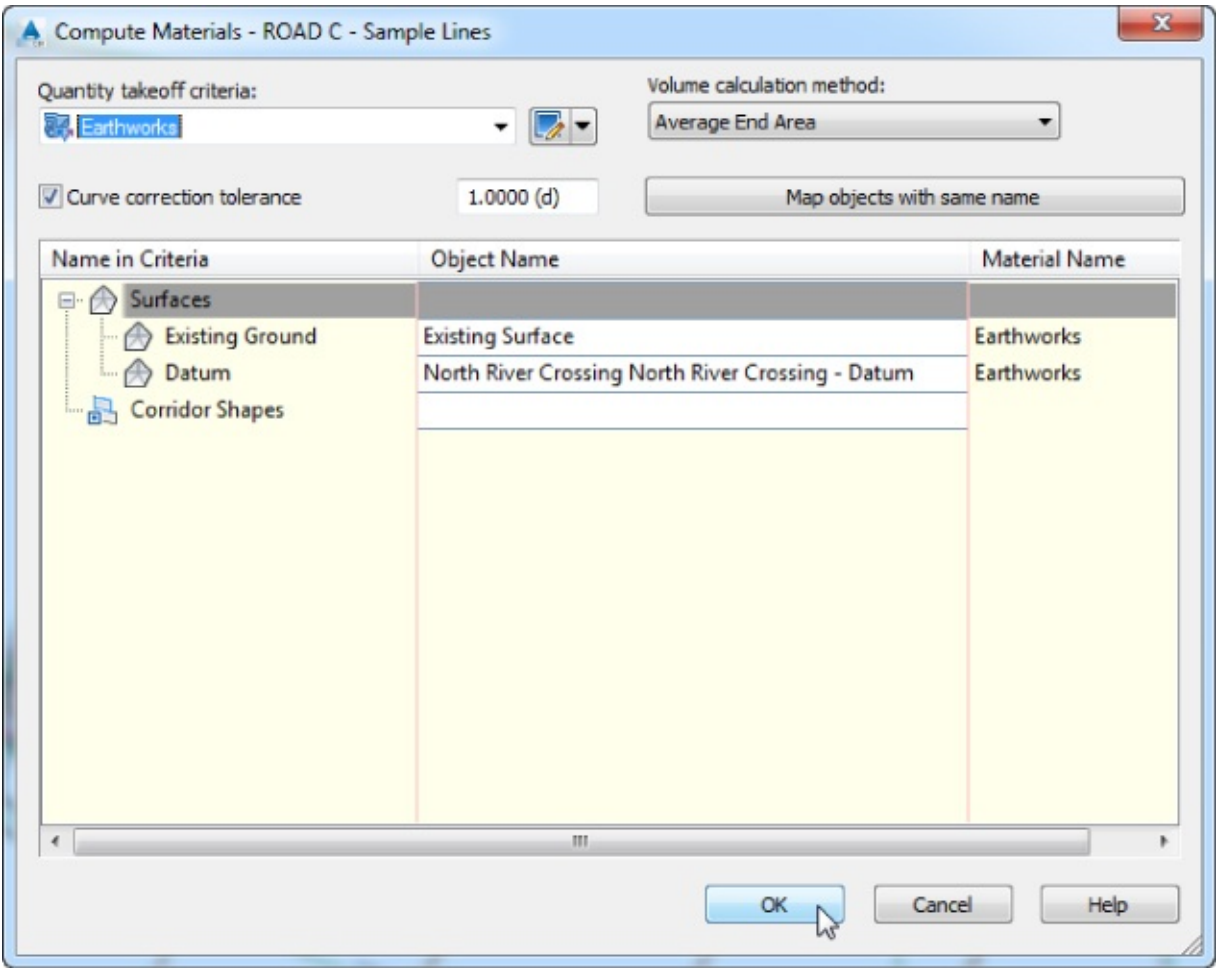

Figure 12.18 The settings for the Compute Materials dialog
- 7. Verify that your settings match those shown in Figure 12.18, and then click OK.